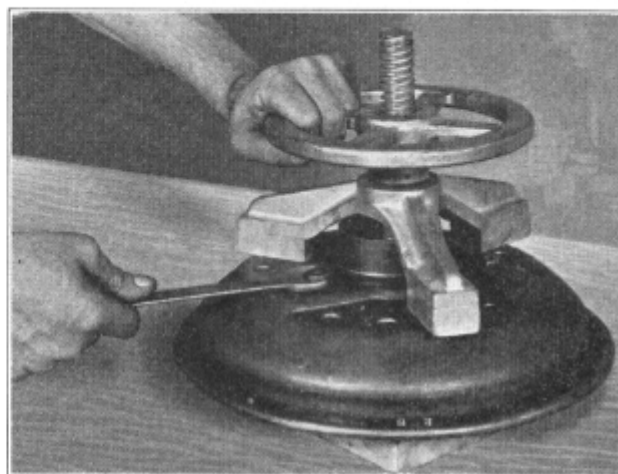

Figure 2
Place the clutch assembly in the clutch-fixture (J-298-H) and clamp tight with the hand wheel. (Figure 2.) Remove the three nuts (7) from the back of the cover and release the hand wheel. The cover can then be removed, exposing the springs (8), clutch fingers (4) and finger retainers (6).
Place the pressure plate on the fixture (Figure 2) with the friction face down. Put springs, throwout fingers, finger retainers and retainer washers in place.